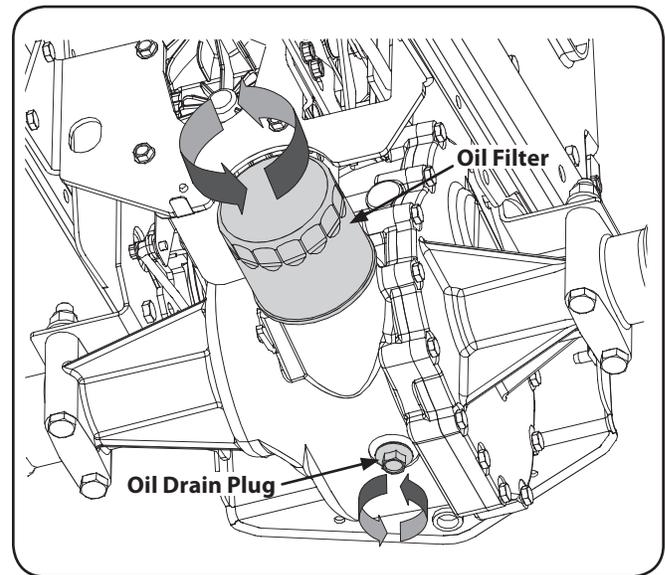

Figure 6-3
3. Remove the drain plug and allow the transmission oil to drain into a clean container having a capacity of more than six quarts. Reinstall the drain plug. See Figure 6-3.
4. Clean around the base of the transmission oil filter and remove the filter by turning it counterclockwise. Refer to Figure 6-3.